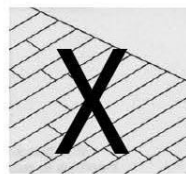
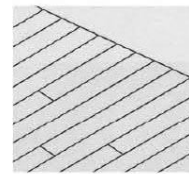

Figure 3A
Figure 3B
**Row Three and Remaining Rows:** Move rows if necessary to ensure that you are not showing any undesirable joint patterns. (Figure 3A) The rest of the row's end joints should be random throughout the floor. (Figure 3B) Your first three rows are staggered ensuring that offset of previous row with end joints are no closer than 6" from one another. When the planks are being tapped in place, a non-random pyramid or stair step pattern is used to ensure the planks remain engaged through the force of the tapping. The numbered process is shown in Figure 1.